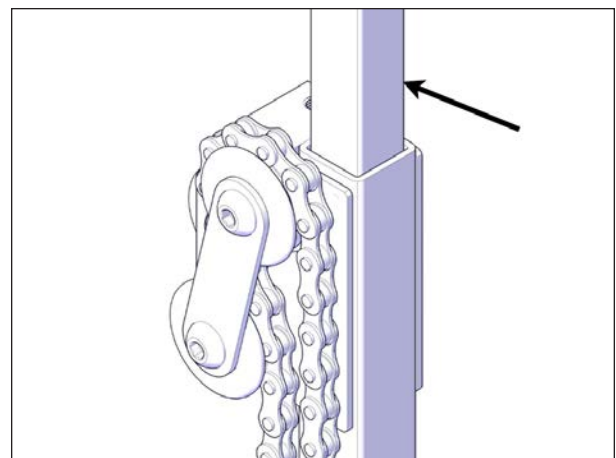

FIGURE 115: SLIDING PARTS TO GREASE
7. Spray grease on all the sliding parts and mechanical components of all jacks, see Figure 115.